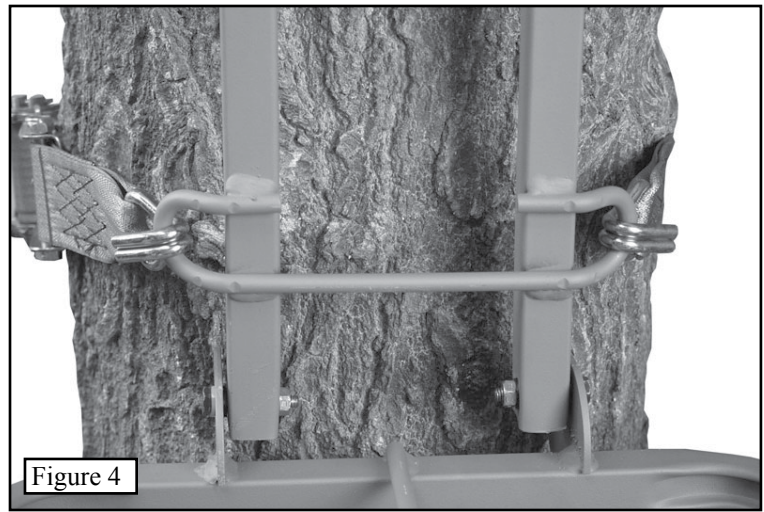

Figure 4
Step 4. Secure one of the ratchet straps to the bottom welded bracket on the far side of the stand. Ratchet straps should attach with the hooks facing out (See **Figure 4**). This will keep the strap pinned into the stand as you hang it. Loop the strap around the tree and hook the other side into the welded bracket. Ratchet tight enough so that the stand does not slip down.